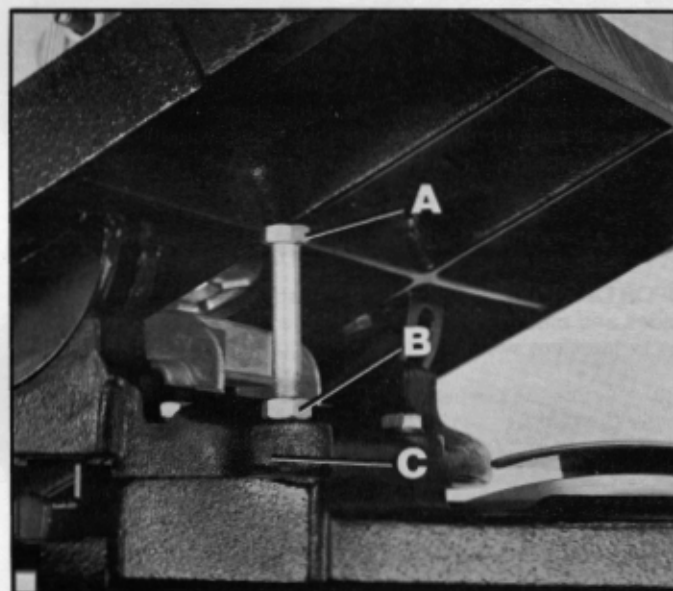

Fig. 29
To assemble the table stop, tilt the table to the right slightly. Thread the 5/16" - 18 nut (B) Fig. 29 onto the 2-1/2" table stop (A) and insert the stop into the untapped hole in the casting (C) as shown.
1. Tilt the table slightly to the right and remove the table stop (A) Fig. 29.
2. Turn the adjustment nut (B) Fig. 29, right or left as needed and place the stop (A) into the hole in the casting (C).
4. It is necessary to remove the adjustable stop (A) Fig. 29 when tilting the table to the left.